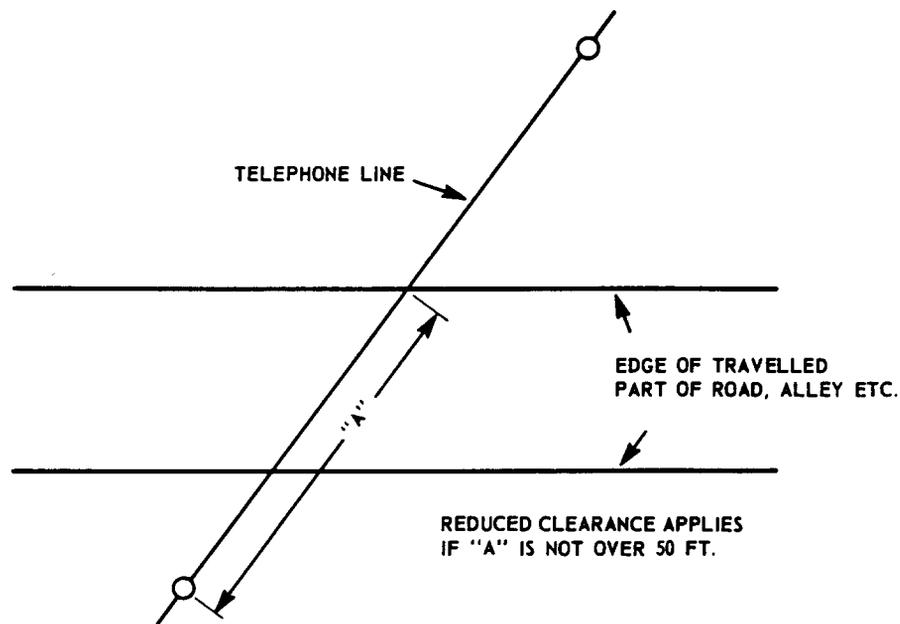

Fig. 1
1.04 Note that clearance requirements shown for wire overhanging the traveled part of public roads are considerably larger than the clearances required where no such overhang exists. Note also that clearances for wire crossing alleys, roads and driveways show one set of values for general use and a second somewhat lower set of values for use when one pole is located within 50 feet of the far edge as shown in Fig. 1.
1.05 Multiple drop wire must be installed with relatively large sags. Hence it will generally be advantageous to locate poles and wire runs so that the middle of the span will *not* be above the traveled part of the road, alley or driveway. This will often be the case at crossings when the far edge of the road, alleys, etc, is 50 feet or less from the pole. (See Fig. 1) When this condition exists, it may be possible to base the height of pole attachment on something less than 100 per cent of the midspan. The following table shows the percentage of midspan sag to be used in determining the height of pole attachment when the 50-foot criterion applies. This procedure should be ignored for spans less than 145 feet.
Pole not over 50 ft. from far edge	Fig. 1